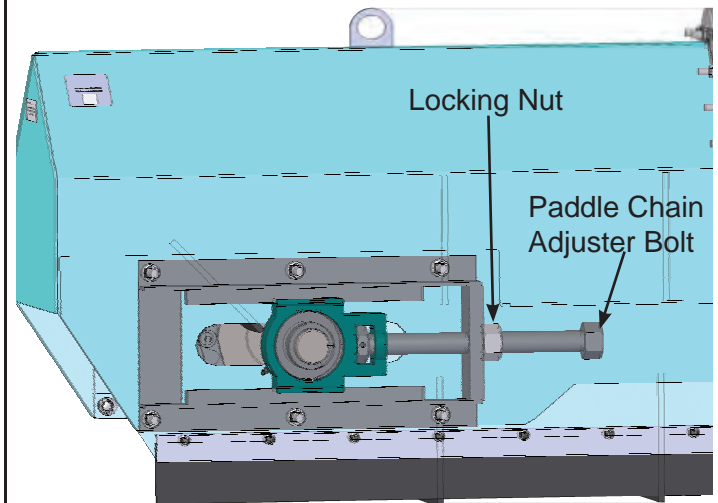

Figure 4-30: Paddle Tension Adjustment
To adjust the chain tension use the two take-up assemblies located in the Drive End Section. See Figure 4-30.
1. Loosen the locking nuts on the adjuster bolt. See Figure 4-30.
Turn the adjuster bolt clockwise to increase the chain tension or counterclockwise to reduce the chain tension. See Figure 4-30.